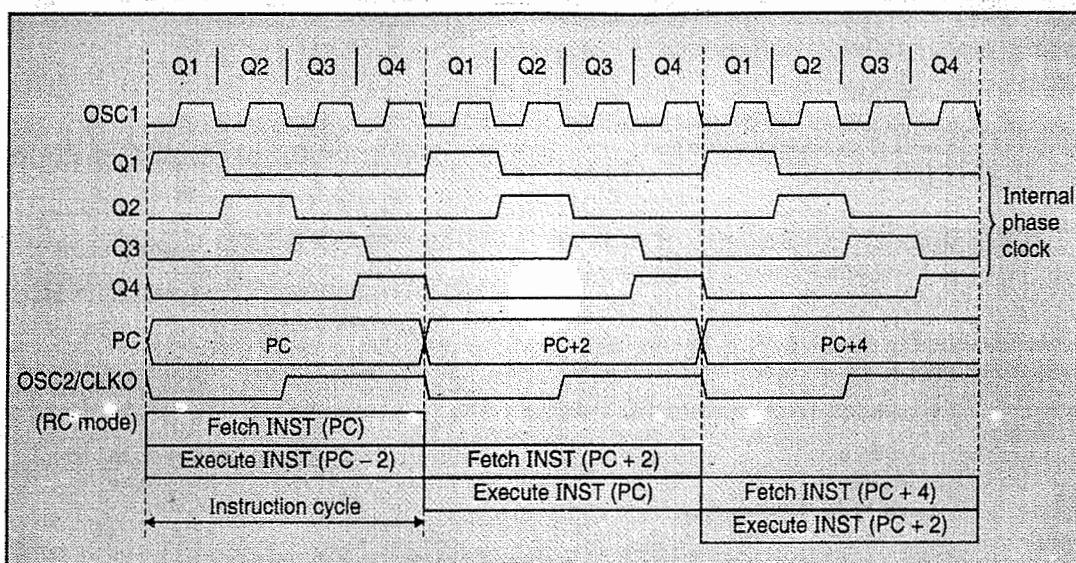

Fig. 4.14.1 : Clock/Instruction cycle
- After every instruction cycle the Program Counter (PC) is incremented by 1 .
- Fig. 4.14.1 shows the clocks and instruction execution.
- An "Instruction Cycle" consists of four Q cycles (Q1, Q2, Q3 and Q4) as shown in Fig. 4.14.1.